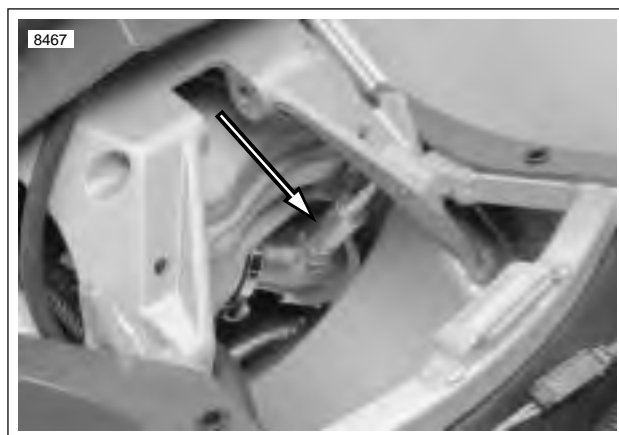

Figure 4-34. Oxygen Sensor (shock absorber removed)
- **Loose O₂ sensor.** See Figure 4-34. If the O₂ sensor is loose engine performance may be affected. This could also show up as a slow changing O₂ sensor voltage.